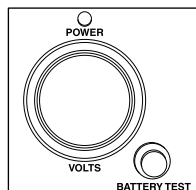

Fig. 6
- Check the charge of the internal battery using the battery test button and voltage gauge on the front of the unit. (Fig. 6)